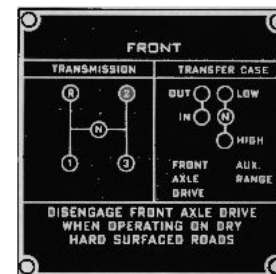

FIG. 3 -- SHIFT
- Move transmission gearshift lever to first speed position – see Fig. 3 (Note that the front axle and transfer case shift levers are not used when the vehicle is driven on the highway in rear wheel drive.)
Instructions for shifting gears in the transfer case are as follows: See Fig. 3.